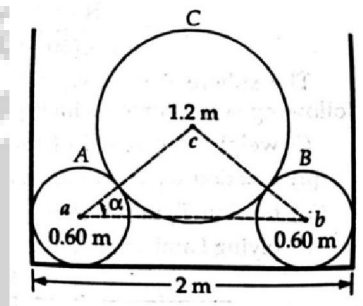

Fig. 3
- 11 a) Three cylinders with given diameters are arranged as shown in fig 3. The cylinders A and B weigh 1000N each and the weight of cylinder C is 2000N. Determine the forces exerted at the contact points. (5)